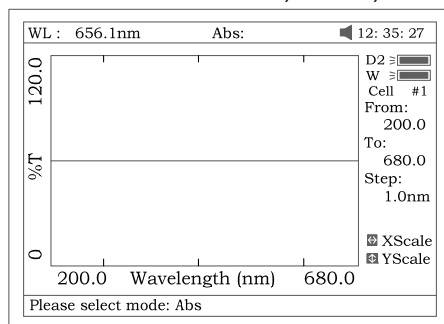

Fig 43
2. Press [F2] to select the test mode, “Abs”, “%T” or “E” (Fig 43).